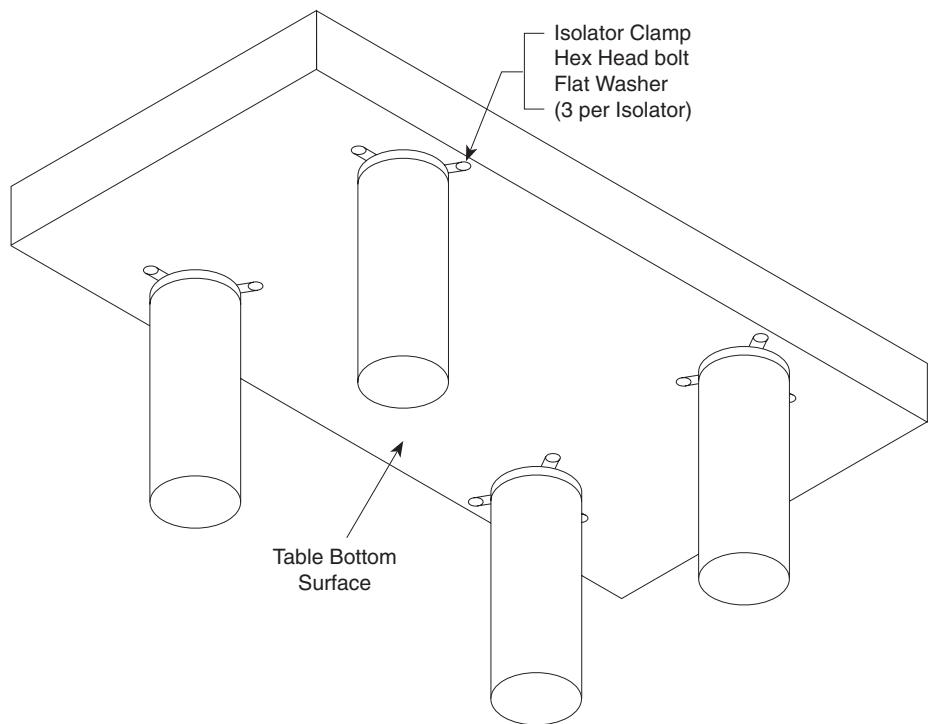

Figure 2.2 — Isolator Clamps and Mounting Holes
- A. With the isolators located as described in Section 2.1.2, raise the table top and position it above the isolators. Be sure each isolator is centered within the tapped three-hole patterns on the lower surface of the table (Figure 2.2).